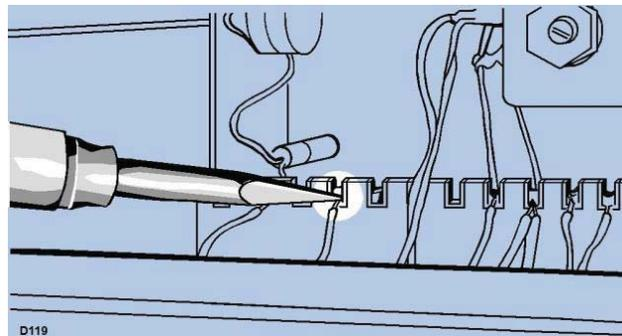

Fig. 4-2. Applying iron tip to strip.
4. Apply one corner of the tip to the notch where you wish to solder (see Fig. 4-2).